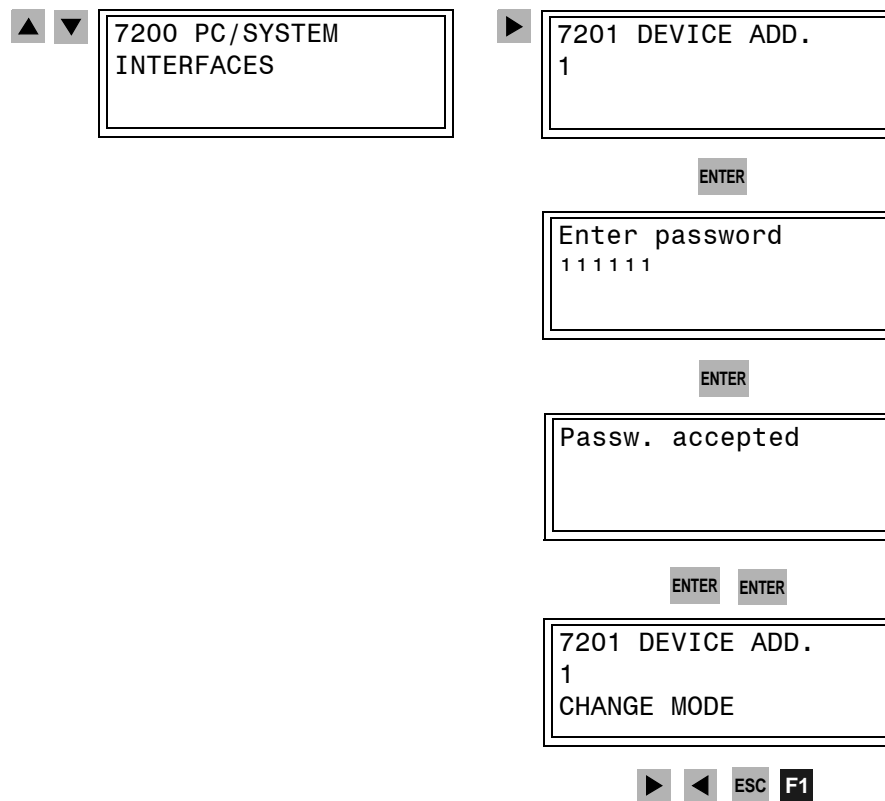

Figure 3-5 Operator menu for setting the device address in the bay units
- ❑ Use the navigation keys ▲ or ▼ to navigate to the menu item **7200 PC/SYSTEM INTERFACES**, and the navigation key ► to go on to the submenu for the parameter **7201 DEVICE ADD.** (see Figure 3-5, page 42).